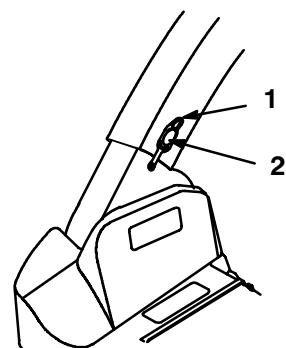

Figure 19
1. Insert the upper end of the discharge tube into the bagger top. Slide the lower end of the discharge tube over the blower discharge opening (Fig. 19).
2. Hook the rubber latch onto the knob (Fig. 19).